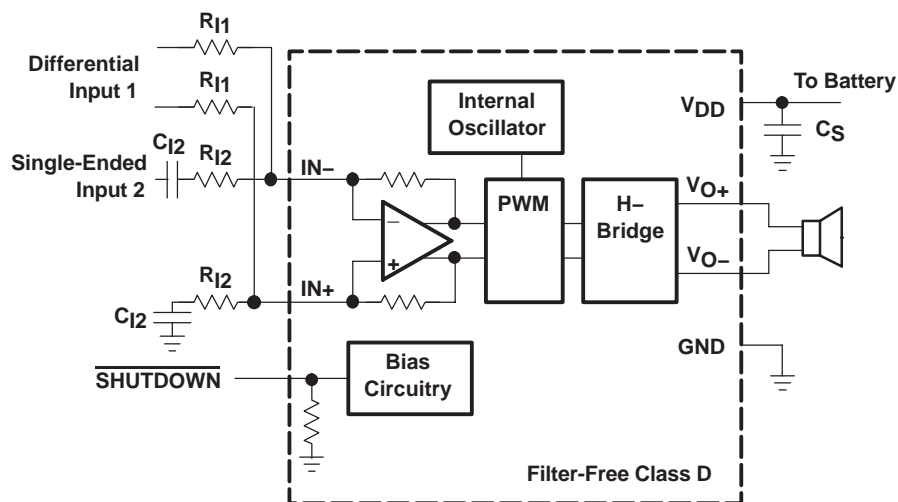

Figure 31. Application Schematic With TPA2010D1 Summing Differential Input and Single-Ended Input Signals
Figure 31 shows how to sum a differential input signal and a single-ended input signal. Ground noise can couple in through IN+ with this method. It is better to use differential inputs. The corner frequency of the single-ended input is set by C_{I2}, shown in equation (8). To assure that each input is balanced, the single-ended input must be driven by a low-impedance source even if the input is not in use